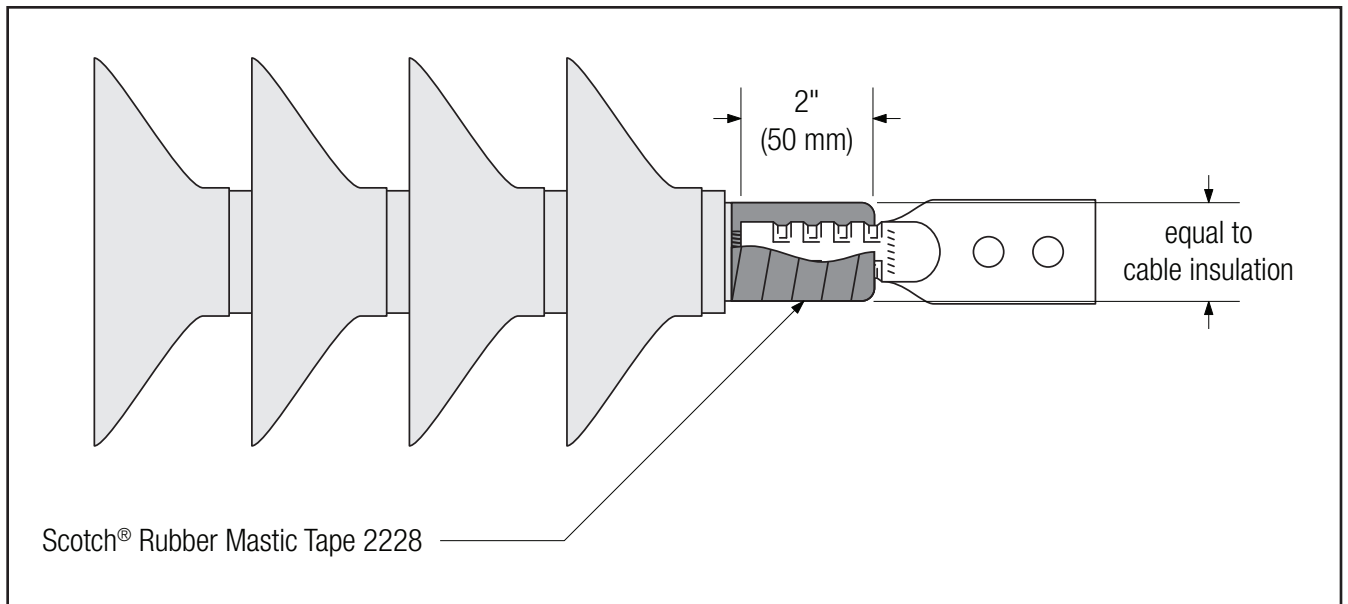

Figure 11
3.2 Wrap Scotch® Rubber Mastic Tape 2228 half-lapped over the lug barrel and insulation/lug gap, building to a diameter equal to the cable insulation. Cover 2" (50 mm) of the lug barrel. (Figure 11)